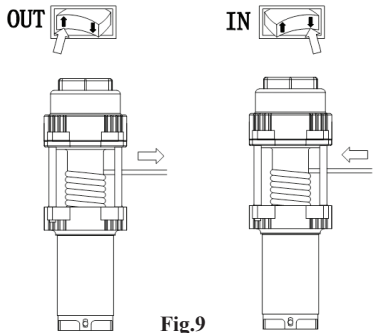

Fig.9
- Turn ATV key switch to ON position. Check winch for proper operation. The wire rope should spool in and out in the direction indicated on the switch (fig.9).